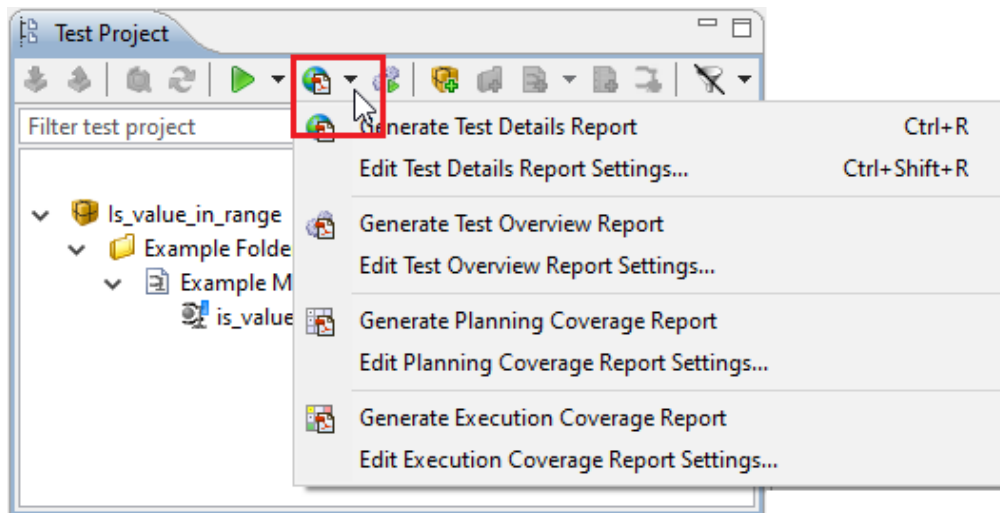

Figure 6.46: Creating a report
- Select the report you wish to create (see figure 6.46).